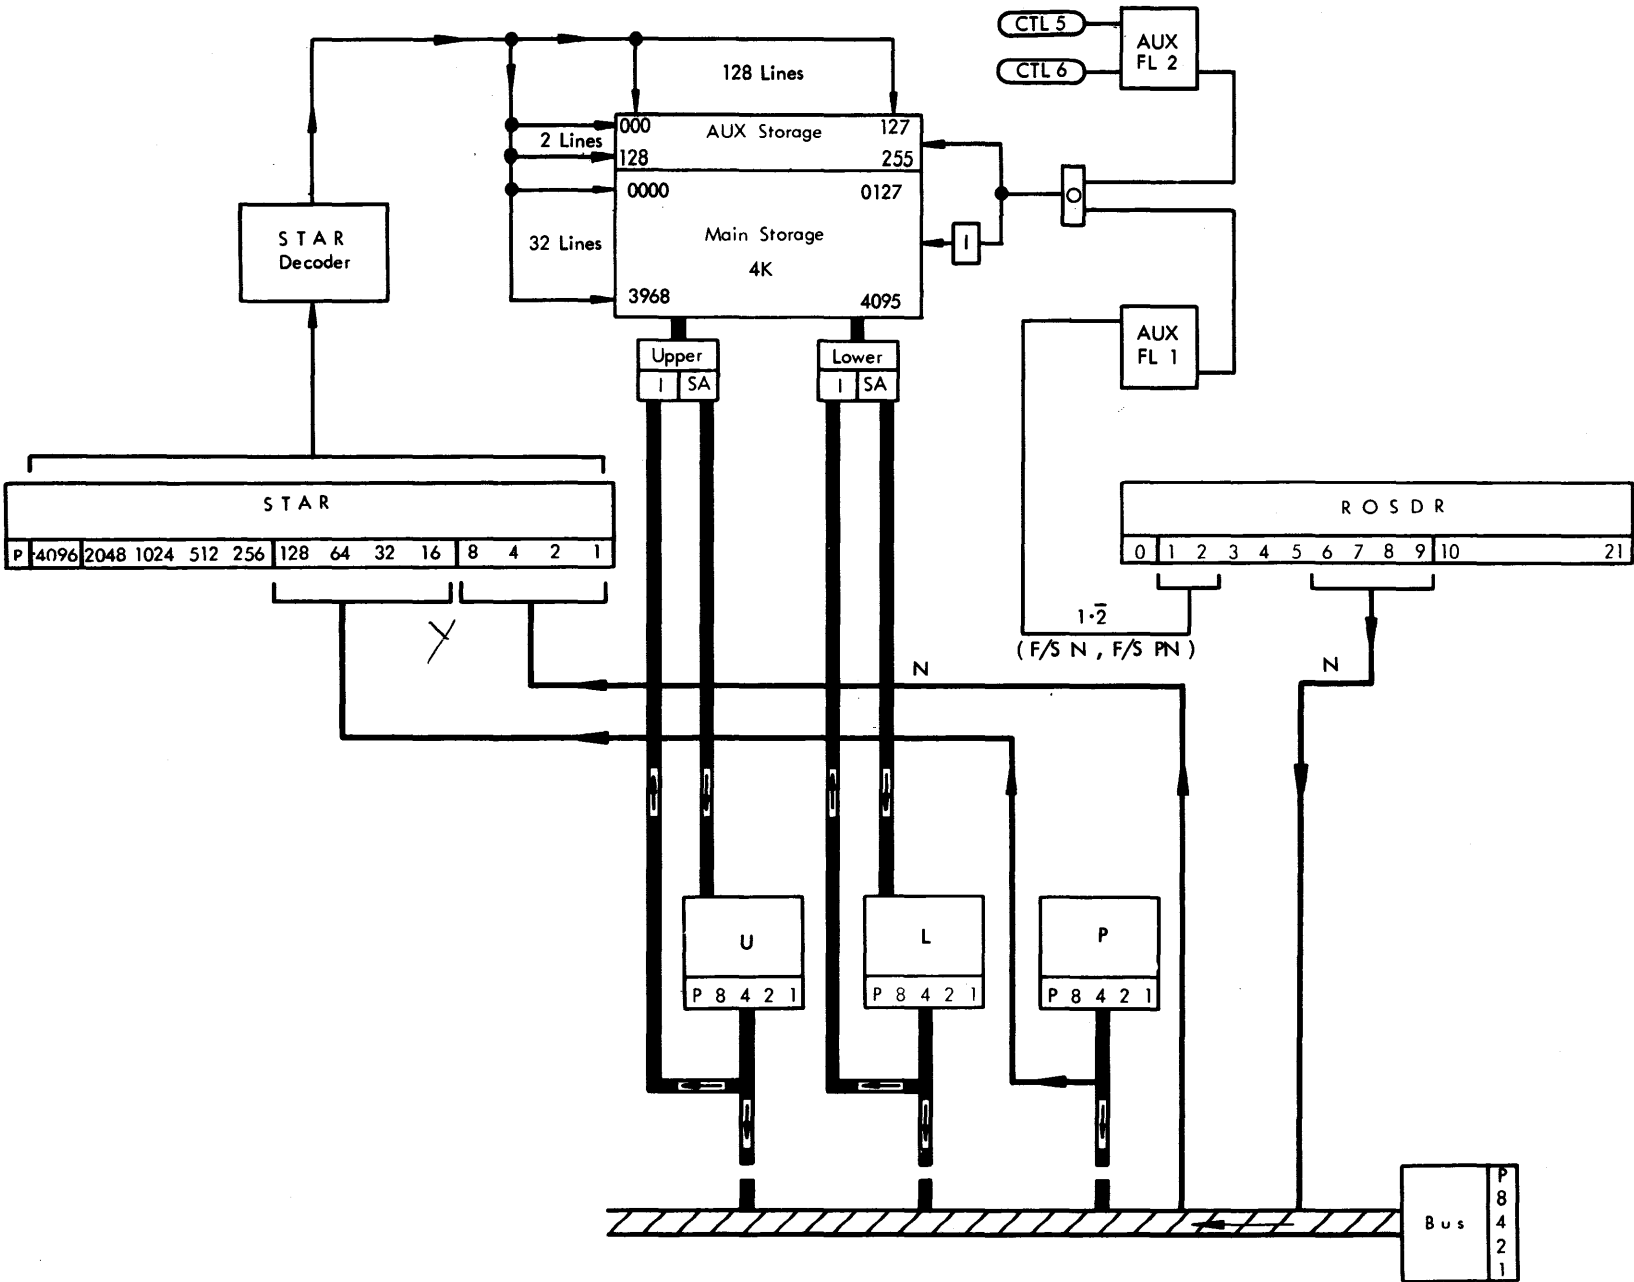

Figure 2-19. Data Path to Address Aux Storage
- AUX storage addresses (0-255) are separated from Main storage address (0-255) by the addition of a latch, the AUX latch (Figure 2-19).
During an FN or SN micro instruction operation, the "N" address (position 6, 7, 8, and 9 of ROSDR) is set into STAR positions 1, 2, 4, and 8. All other STAR positions are set to binary zeros (Figure 2-19).
During an FPN or SPN micro instruction operation the "N" address is set into the main STAR positions 1, 2, 4, and 8, and the Data Register P content is set into STAR positions 16, 32, 64 and 128. All other positions of STAR are set to binary zeros (Figure 2-19).